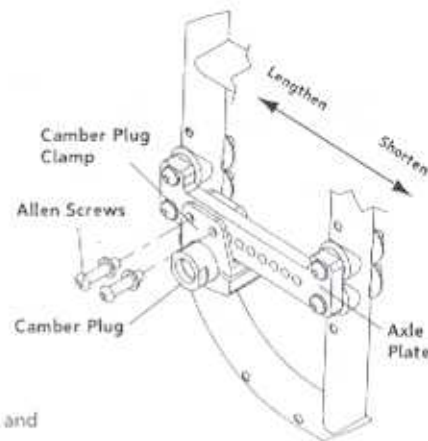

Figure 20
1. Remove the two allen screws that hold the camber plug clamps on to the axle plate [Figure 20].